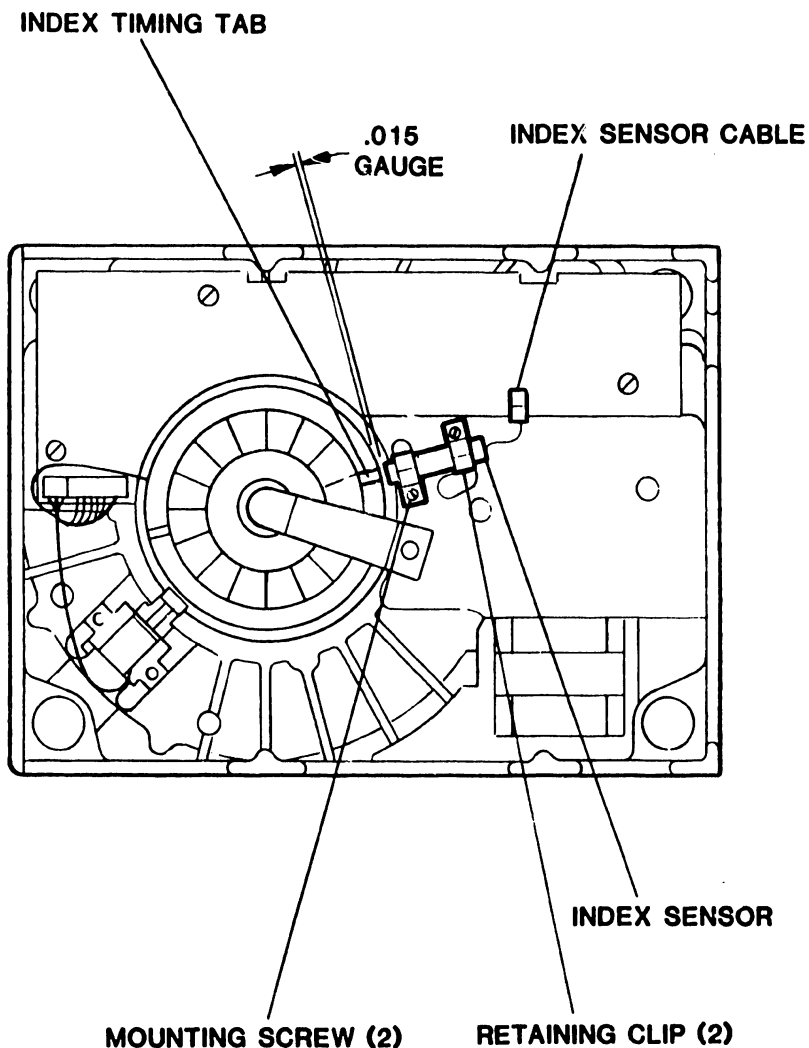

Figure 6-5. Index Sensor Removal and Replacement
6.3.5 Index Sensor Removal and Replacement (Figure 6-5)